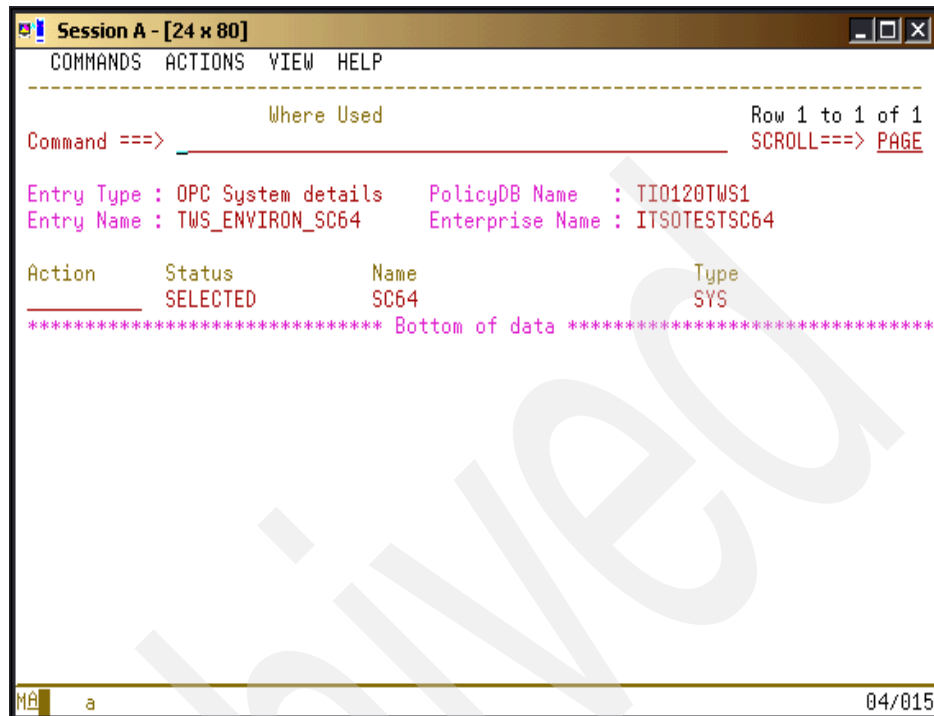

Figure 4-53 OPC System details Where Used panel after s action
- This panel should show all systems that are defined in the SYSPLEX PDB. Select the system on which this TWS for z/OS controller is used by placing an s in the Action column next to the system and pressing Enter. (We only have one system in our SYSPLEX PDB which is SC64.) The Status column changes to SELECTED as shown in Figure 4-53 on page 159.